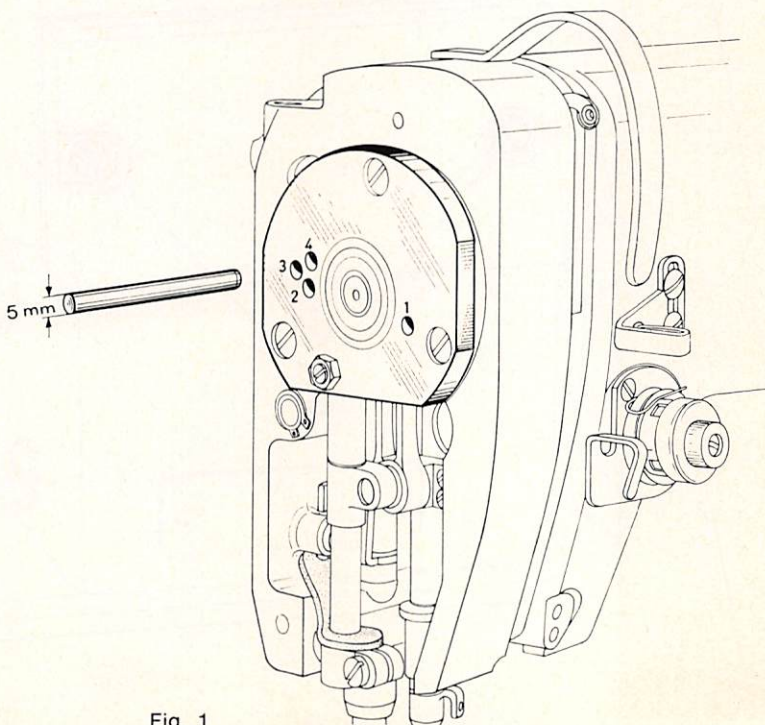

Fig. 1
1.1 Determining the Different Needle Positions (Fig. 1)